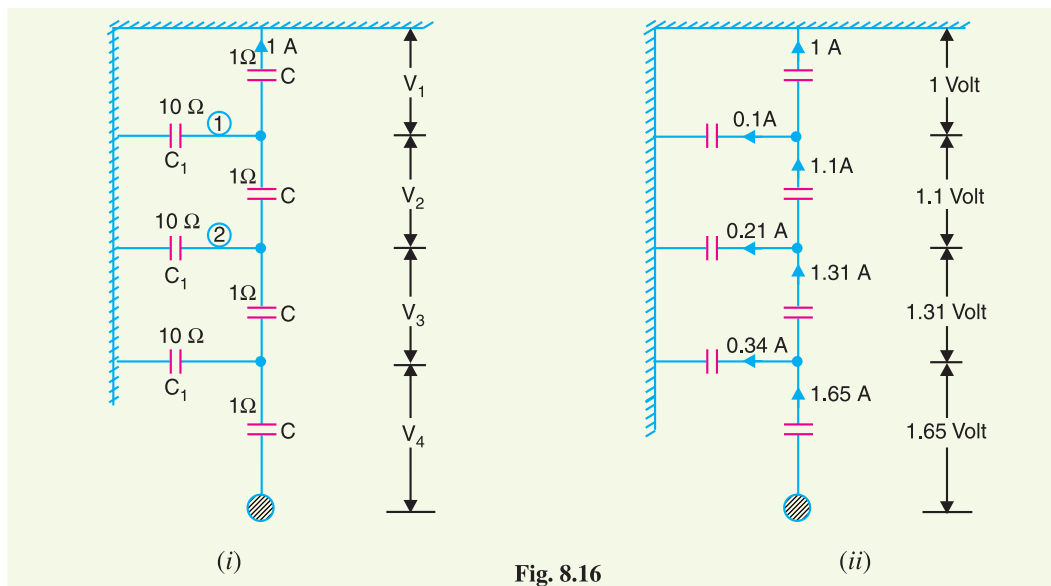

Fig. 8.16
(i) Suppose $X_C = 1 \Omega$. As the ratio of self-capacitance to shunt capacitance (i.e., C/C_1) is 10, therefore, $X_{C_1} = 10 \Omega$ as shown in Fig. 8-16 (i). Suppose that potential V across the string is such that 1 A current flows in the top insulator. Now the potential across each insulator can be easily determined. Thus :
** Current through first shunt capacitance [marked 1, see Fig. 8-16] is $V_1/10 = 1/10 = 0.1$ A. Therefore, the current through second unit from top is $1 + 0.1 = 1.1$ A and voltage across it is $1 \Omega \times 1.1 \text{ A} = 1.1$ volts.
† Current through second shunt capacitance [marked 2 in Fig. 8-16] is $(V_1 + V_2)/10 = (1 + 1.1)/10 = 0.21$ A. Therefore, current thro' 3rd unit from top = $1.1 + 0.21 = 1.31$ A and voltage across it is $1 \Omega \times 1.31 \text{ A} = 1.31$ volts.